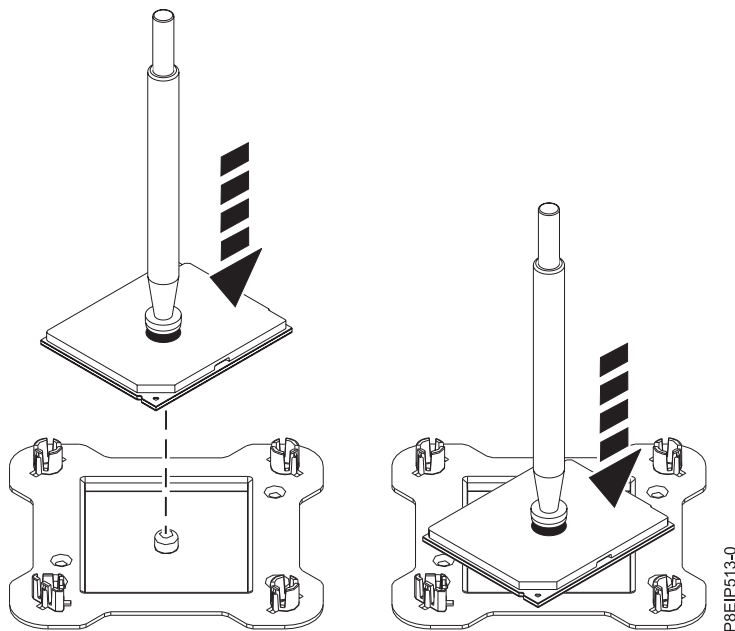

Figure 80. Placing the processor at an angle on the top cover of the packaging
9. Holding the vacuum pen, lift the pen and system processor module from the socket. Place them at an angle on the top cover of the system processor module packaging as shown in Figure 80. Setting the system processor module at an angle on the top cover of the system processor module packaging will make it easier to pick up and place in the packaging after you replace the system processor module.